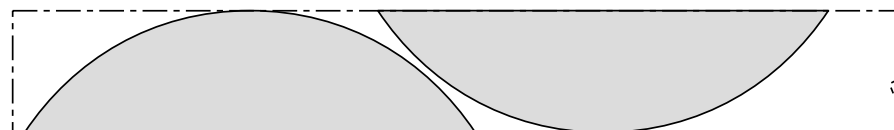

Figure 2: marking out segments to reduce waste.
- 6) Now use the cardboard template to mark the timber planks. You can prick through the template into the wood and then join the marks with a pen. Figure 2 shows how to mark out the segments to waste the minimum timber.